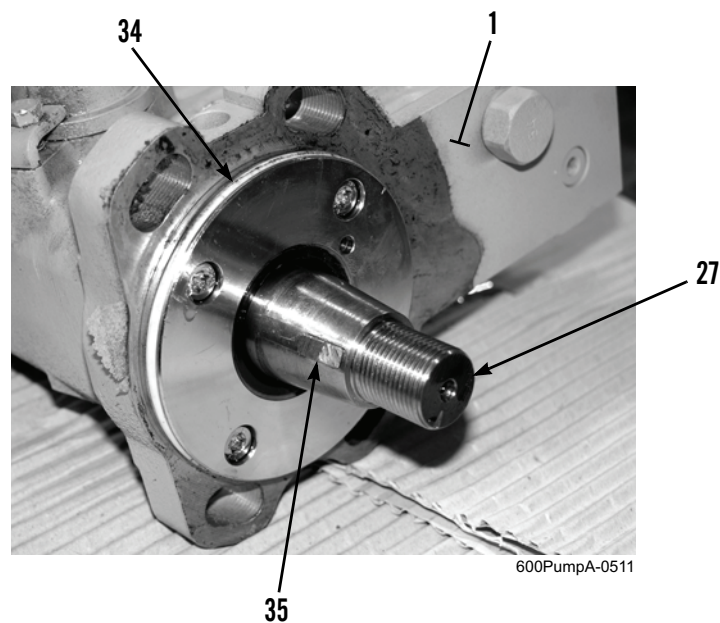

Figure 13. Fuel Injection Pump O-Ring and Woodruff Key.
24. Remove O-ring (Figure 13, Item 34) from fuel injection pump (Figure 13, Item 1). Discard O-ring.
25. Remove Woodruff key (Figure 13, Item 35) from fuel injection pump shaft (Figure 13, Item 27). Retain Woodruff key for installation.